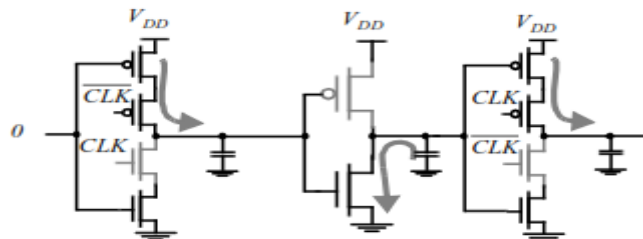

Figure 3.25 Potential race condition during (0-0) overlap in C2MOS-based design.
- The only way, a signal can race from stage to stage under this condition is, when the logic function F is inverting, as in Figure 3.25.